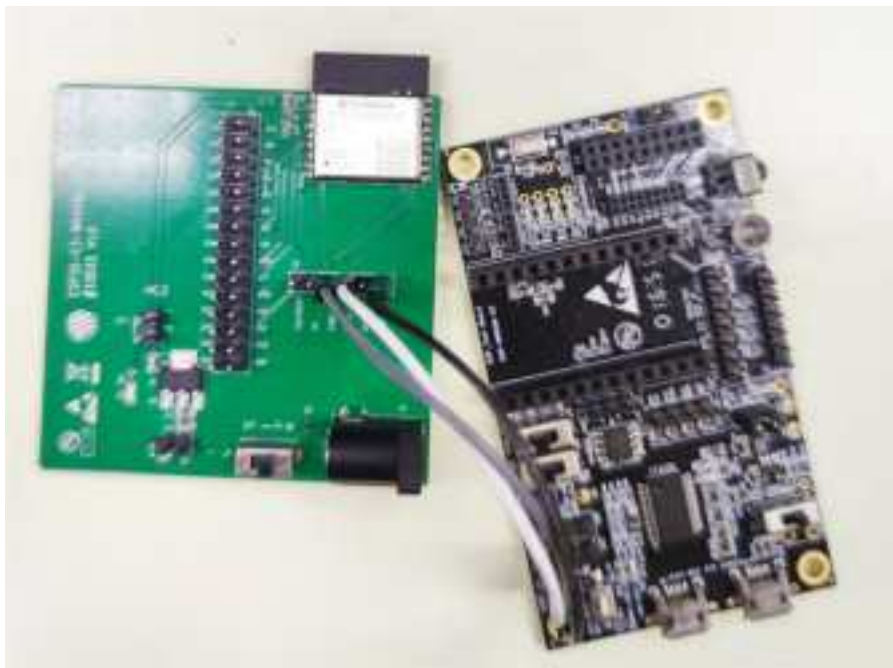

Figure 2: Hardware Connection
1. Solder the ESP32-C3-WROOM-02 module to the RF testing board as shown in Figure 2.